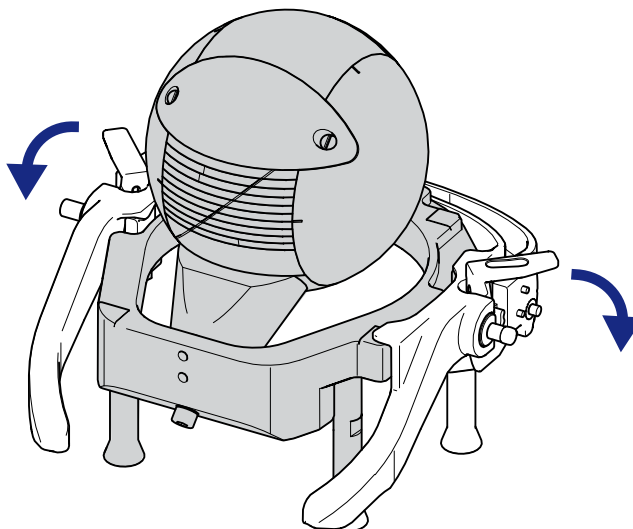

Figure 1.18 Lock the Vantage frame adapter to the Dosimetry phantom
- e Turn and fold down the left and right levers to lock the frame adapter, see Figure 1.18.